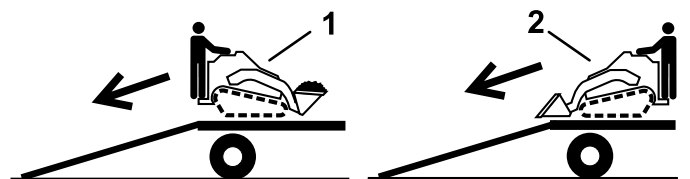

Figure 31
2. Unload the machine from the trailer with the heavy end up the ramp, carrying loads low (Figure 31).